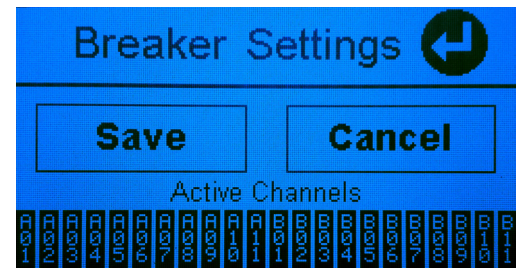

Figure 5. Breaker Inventory
Step 2. Select "Take Inventory". All installed and active breakers will be displayed. Follow the on-screen prompts to complete the inventory process (see Figure 5).